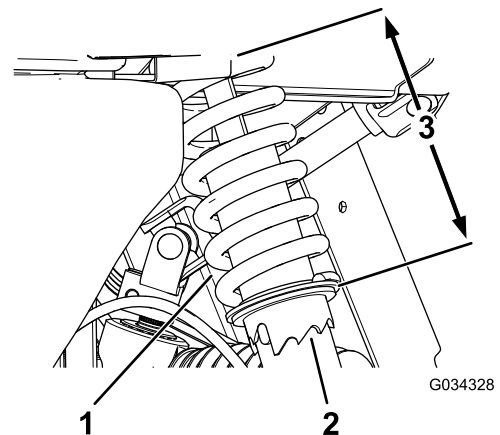

Figure 45
- Using Toro Tool No. 6010, rotate the collar on the shock absorber to change the length of the spring (Figure 45).